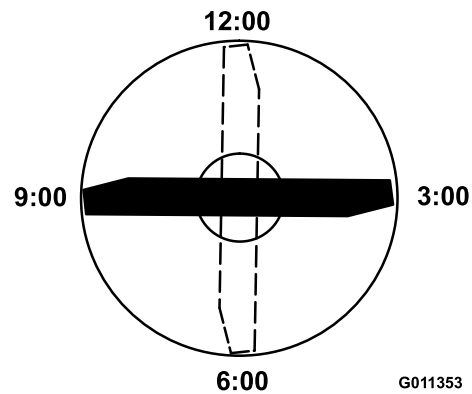

Figure 66
4. Position the cutting edge of the marked end of the blade at 12 o'clock (straight ahead in the direction of mowing) (Figure 66) and measure height from table to cutting edge of blade.
5. Rotate the marked end of the blade to the 3 and 9 o'clock positions (Figure 66) and measure the heights.